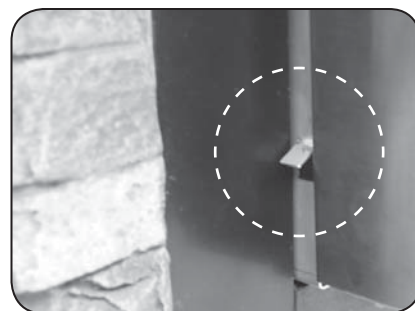
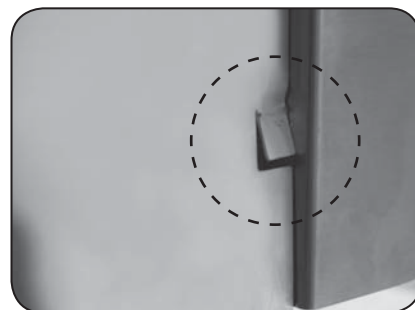

Fig. 7-1 Tab may interfere when sliding in unit
Fig. 7-2 Tab slightly bent in for clearance
**Note:** Each side of the unit has a tab just behind the control panel. These tabs prevent the control panel from moving inward. If the tabs interfere with the unit sliding in (see Fig. 7-1), use pliers to bend them inward so that they clear the enclosure sides. Leave the tabs slightly out to ensure they still keep the control panel from moving inward (see Fig. 7-2).